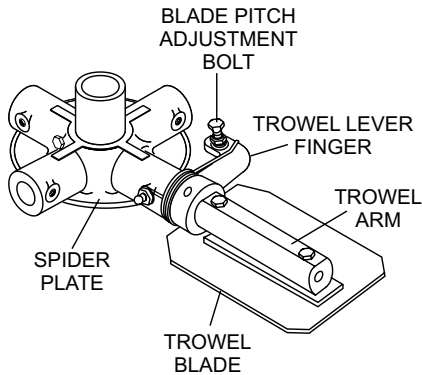

**Figure 51. Cleaning The Spark Arrester**
4. Carefully remove carbon deposits from the spark arrester screen (Figure 51) with a wire brush.